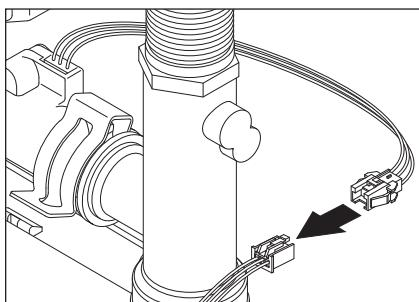

Figure 113 - Disconnecting 3 Pin Wire Harness
**13** Disconnect the 3 pin wire harness. Connector will be located near the cold water supply opposite from Smart Valve as shown in Figure 113. Place wires aside in a safe location so they are not damaged.